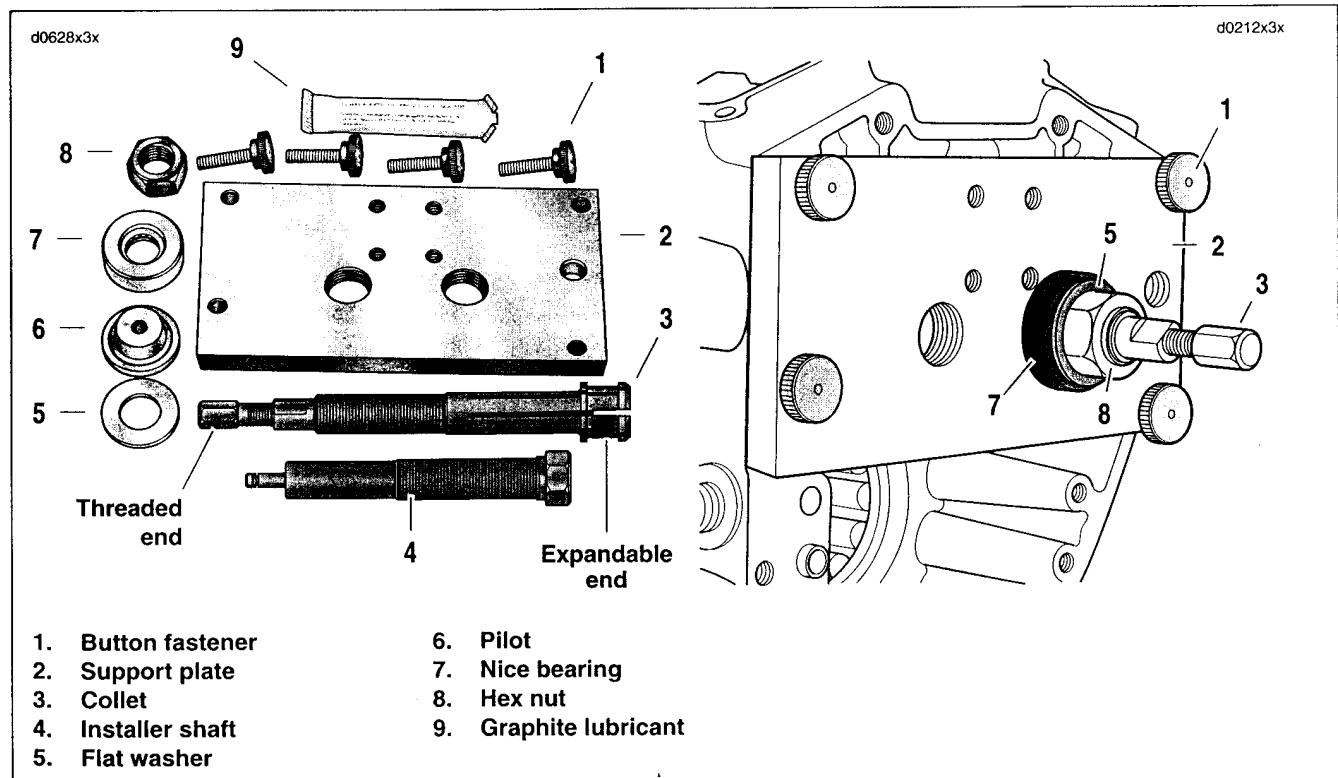
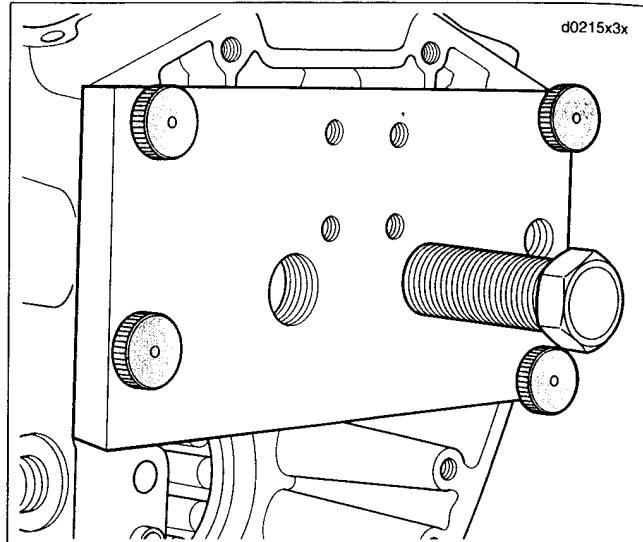

Figure 3-144. Camshaft Needle Bearing Remover/Installer (Part No. HD-42325)
Figure 3-146. Installer Shaft Installation
2. See Figure 3-144. Remove four button fasteners (1) from threaded holes in support plate (2), if installed.
3. Sparingly apply graphite lubricant (9) to threads of collet (3) to prolong service life and ensure smooth operation.
7. Center expandable end of collet in bearing bore and slide Nice bearing (7) and flat washer (5) on threaded end. Start hex nut (8) on threaded end.
2. See Figure 3-144. Sparingly apply graphite lubricant (9) to threads of installer shaft (4) to prolong service life and ensure smooth operation.
3. Thread installer shaft into stamped side of support plate (2) until threads begin to emerge from opposite side.
4. Install pilot (6) at end of installer shaft.
6. See Figure 3-146. Aligning two large holes in support plate with needle bearing bores, hang right side of plate on ring dowel in crankcase flange.